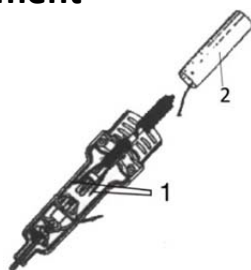
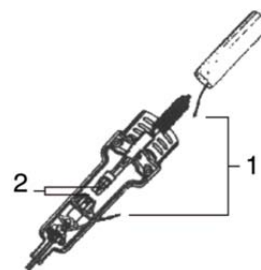

Figure 2
Figure 3
- Open handle(Figure 2)
- Separate grounding wire sheath (part 1 of Figure 3). Remove protective tube (part 2 of Figure 2) in which quartz glass embedded and thermal insulator embedded and do not drop or lose them. Separate yellow wire and red wire sheath (Part 1 of Figure 2).
- Separate heating element end (Part 2 of Figure 3) then take heating element out.